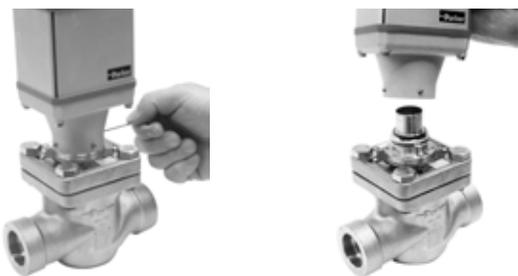

Figure 10: Removal of the PEV Actuator
2. Disconnect all cords connected to the actuator. Loosening the four M4 set screws around the base of the actuator and lift the actuator off the valve body, as shown in Figure 10.